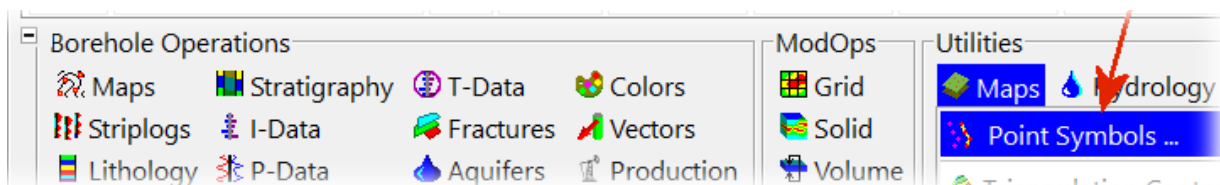

Figure 21
- Select the Point Symbols program from the Utilities / Maps pull-down menu (Figure 21).